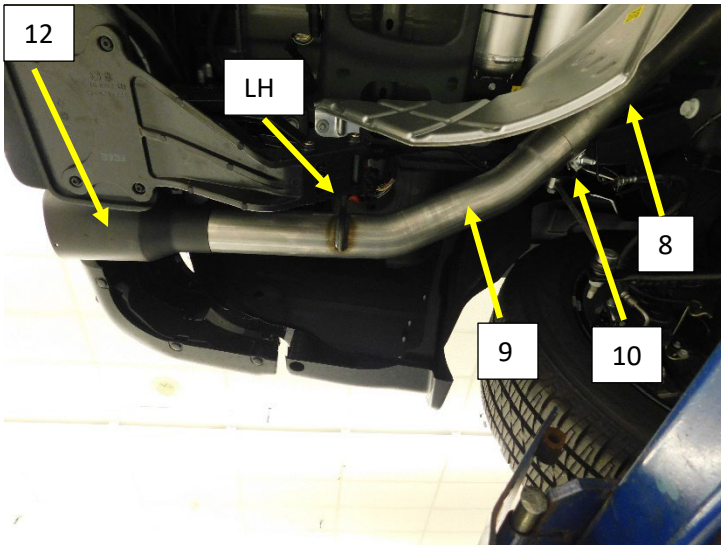

Figure.13
19. Install a 3" band clamp (10) on to the expanded and notched end of the left exit pipe (9) with the bolt at the bottom and nut facing the spare tire. **Fig.13**
20. Install the left exit pipe (9) on to the Left over axle pipe and install the hanger rod (LH) into the isolator on the frame rail. **Fig.13**
21. Install the 4.5' black tips (12) onto each tail pipe and tighten the clamp to allow for adjustment. **Fig.13/14**
23. After alignment is completed Install the push clips (11) on to the hanger rods to prevent the system from moving.